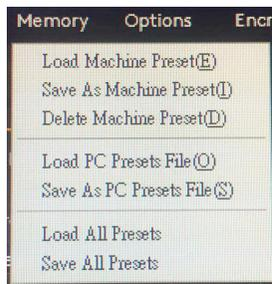

Figure 3.4.1
As shown in Figure 3.4.1 DA-4860DSP software of the scene in three major types of actions: the machine stored scene data, computer data stored scene and the whole scene data manipulation.
**Step1:** Click on the main interface to the top menu " Memory " button will pop up all the scenes action item (see Figure 3.4.1).
**step1:** Click on the main interface to the top menu " Memory " button will pop up all the scenes action item (see Figure 3.4.1).
**step 1:** Click on the main interface to the top menu " Memory " button will pop up all the scenes action item (see Figure 3.4.1).
**step1:** Click on the main interface to the top menu "Memory" button will pop up all the scenes action item (see Figure 3.4.1)